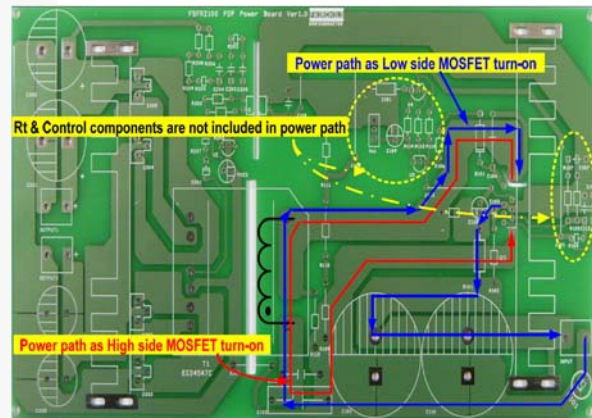

Figure 28. Example for Duty Balancing
**6. PCB Layout Guideline:** Duty unbalance problems may occur due to the radiated noise from main transformer, the inequality of the secondary side leakage inductances of main transformer, and so on. Among them, it is one of the dominant reasons that the control components in the vicinity of  $R_T$  pin are enclosed by the primary current flow pattern on PCB layout. The direction of the magnetic field on the components caused by the primary current flow is changed when the high and low side MOSFET turns on by turns. The magnetic fields with opposite direction from each other induce a current through, into, or out of the  $R_T$  pin, which makes the turn-on duration of each MOSFET different. It is highly recommended to separate the control components in the vicinity of  $R_T$  pin from the primary current flow pattern on PCB layout. Figure 28 shows an example for the duty balanced case.